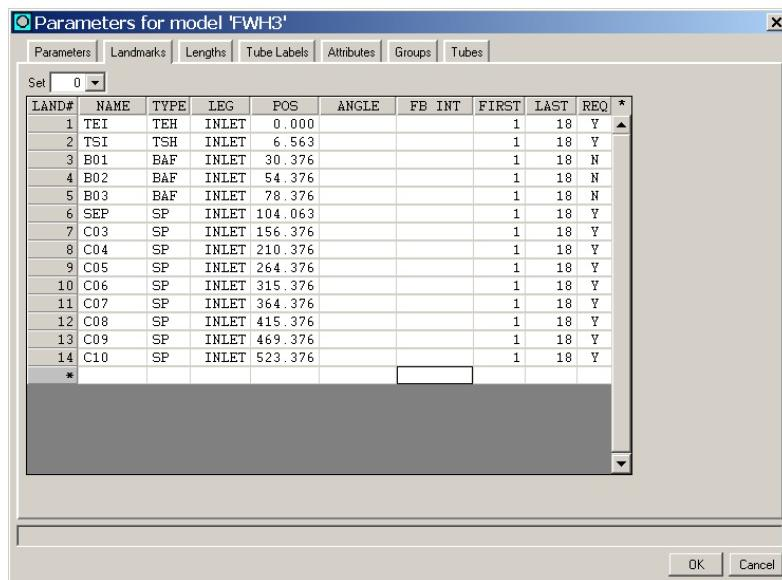

Figure 65. Parameters dialog - Landmarks Tab Showing Landmark Set 0
- STEP 13:** Continue entering the remaining landmarks for **Landmark Set 0** while referring to Table 1. When you have completed this step, continue to the next series of steps to enter the landmarks for **Landmark Set 1** (upper half). When you have finished, the **Landmarks** tab of the **Parameters** dialog should look like the one shown in Figure 65.